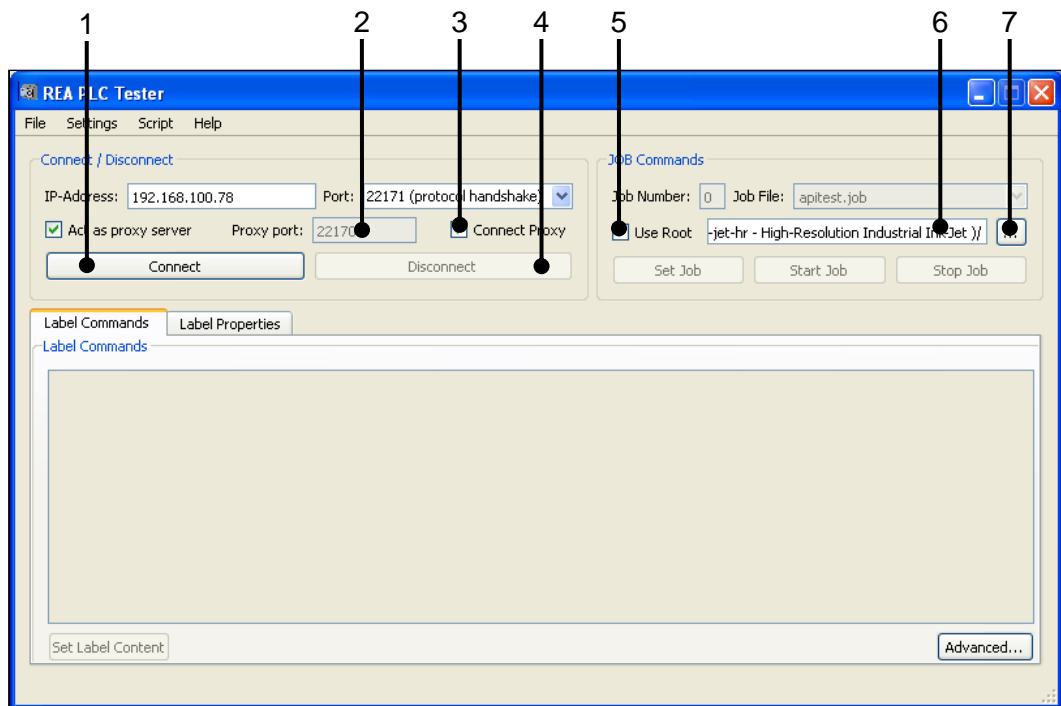

Figure 5: REA-PLC Tester, Proxy connection with a REA JET HR
- Activate the "Use Root" check box (see no. 5, figure 5 on page 36). Assuming you have data in the directory, you should now be shown a job in the "Job File:" field. See the following figure, with the job file "apitest.job".